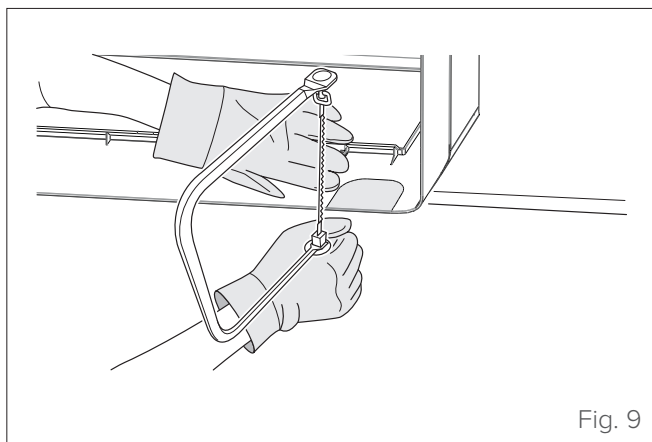

Fig. 9
- 2 If the wall hole is behind the unit, leave the pre-cut panel in place. If the wall hole is on the side of the indoor unit, remove the pre-cut plastic panel from the side of the unit using a jig saw (see “Fig. 9”).